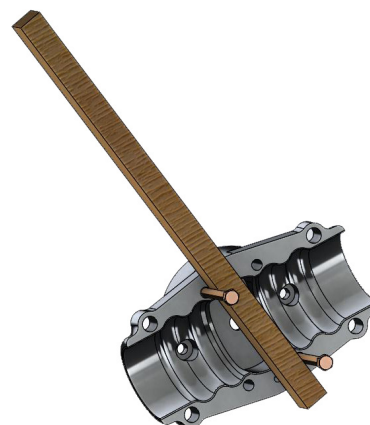

Figure 8- Counter Torque Diagram
Broom Trick: Temporarily install forward hub's mounting bolts and place a broom stick between them (Figure 8) while you torque desired mounting bolts per Table 5.
3. Slide the pitch paddle and protractor on the left blade as shown in Figure 8. Make sure the pitch paddle is parallel with the blade's cord-line and rotate the blade to the suggest starting pitch angle in Table 6.